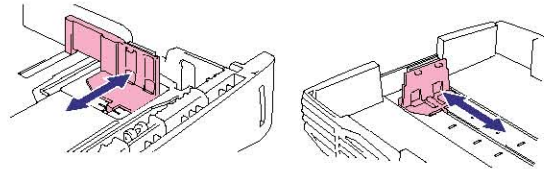

Fig. 2-19
- (1) Pull the paper cassette completely out of the printer.
- (2) Adjust the paper guides to the paper size. (Fig. 2-19)